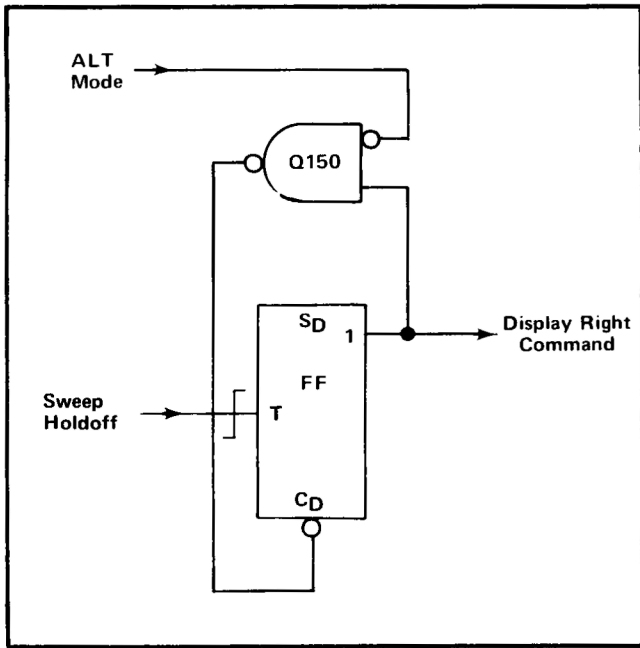

Fig. 3-10. Logic diagram of Vertical Binary stage.
with direct-set and direct-clear inputs (see Table 3-1 for operating details). The connection between the "0" output and the data (D) input enables this flip-flop to operate in the triggered mode. A logic diagram of the Vertical Binary stage is shown in Fig. 3-10.